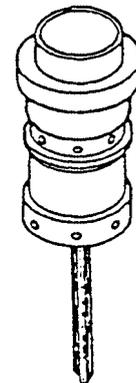

Fig. 14
- Ensure that the convex surface side of the Piston [9] (illustrated in Fig. 14) is facing toward the Guide Plate [25] side.